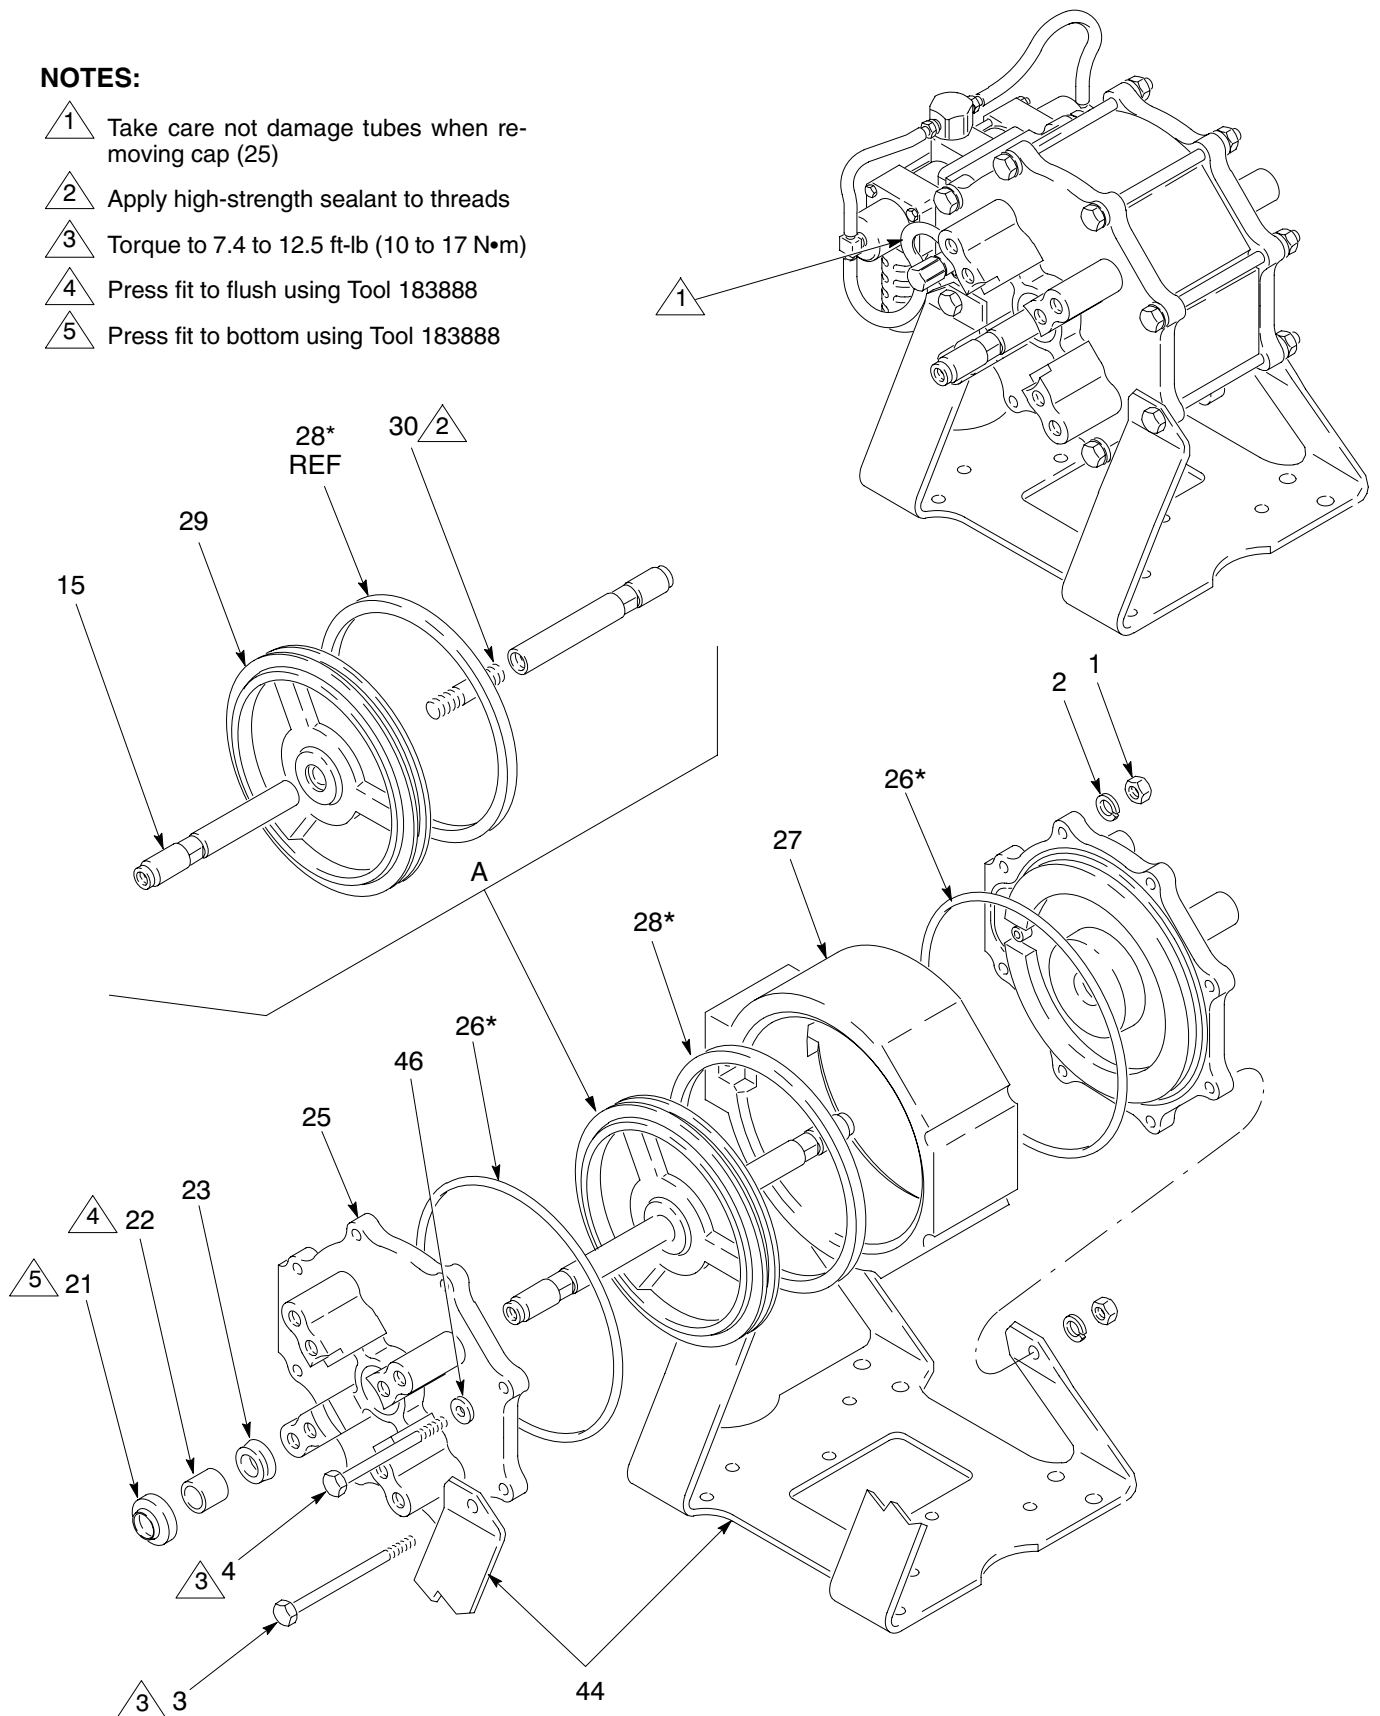
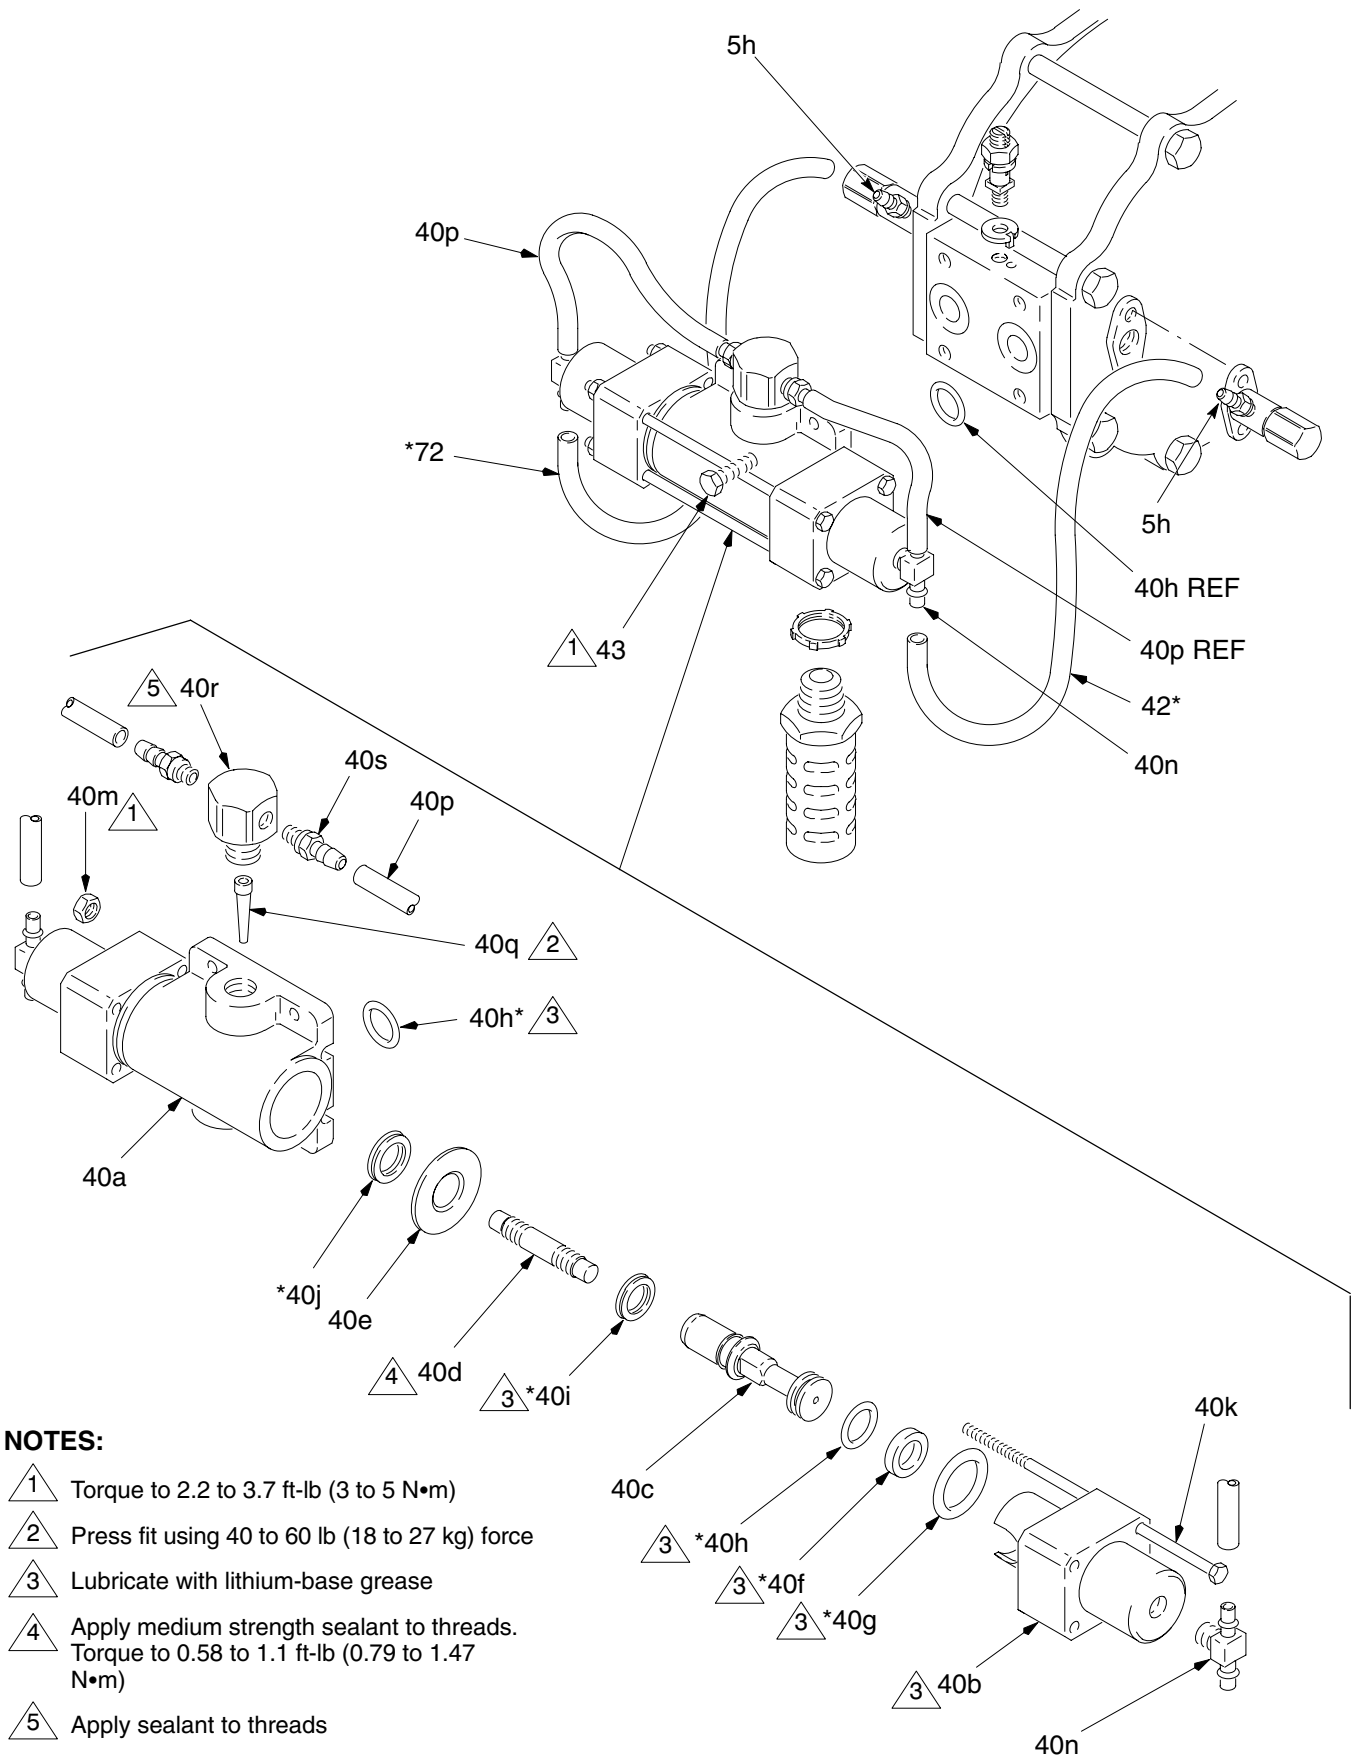

Fig. 7
Fig. 8
3. Remove the screws (3 & 4), washers (46), nuts (1), and lockwashers (2) from the cylinder cap (25). See Fig. 7.
4. Remove the pump from the mounting bracket (44).
5. Remove the cylinder cap (25) from each end of the air motor. If the hoses aren't disconnected or the pilot valves removed, be careful not to pull on the hoses when removing the caps.
1. Apply lithium base grease to all packings, seals, and the inside of the air motor cylinder (27) before assembling.
2. If the piston shafts (15) were removed from the piston stud (30), apply high strength sealant (such as Loctite®) to the threads of the piston stud, and assemble as shown in Fig. 7.
3. Install the quad ring (28\*) in the groove on the piston (29). Install the piston assembly (A) into the air motor cylinder (27).
4. Install a u-cup (23\*) into each of the cylinder caps (25). The lips of the u-cup must face in, towards the center of the pump, as shown in Fig. 8.
5. If the bearings (22) were removed, install a bearing into each cylinder cap (25). Press fit the bearing to flush, using the Bearing/Wiper Tool 183888 and an arbor press.
6. Install a shaft wiper (21) into each cylinder cap (25) with the brass part of the wiper facing out, away from the center of the pump, as shown in Fig. 8. Carefully press the wiper into place, using the Bearing/Wiper Tool 183888, to avoid damaging the brass piece.
7. Install an o-ring (26\*) into the groove in each of the cylinder caps (25). Slide a cylinder cap (25) onto each end of the air motor.
8. Secure the mounting bracket (44) and cylinder caps (25) on the pump with the screws (3 and 4), washers (46), nuts (1), and lockwashers (2). Torque the screws to 7.4 to 12.5 ft-lb (10 to 17 N•m).
2. Cut a small slit in the tube ends (72\*, 42\*, 40p\*) and disconnect them from the pilot valve fittings (5h), air valve tees (40n), and barb fittings (40s). See Fig. 8.
5. If the air filter (40q) needs cleaning or replacement, unscrew the filter housing (40r) and remove the filter. To clean them, soak the filter housing and the filter in solvent until they are clean. Blow them dry with low pressure air [under 30 psi (207 MPa, 2.1 bar)]. Press fit the filter into the housing, using 40 to 60 lb (18 to 27 kg) of force. Refer to Fig. 8. Apply sealant to the filter housing threads and turn it into the center housing (40a).
9. Install the air valve on the pump with the four cap screws (43). Torque them alternately and evenly to 2.2 to 3.7 ft-lb (3 to 5 N•m).
10. Connect the new tubes (72\*, 42\*, 40p\*) to the pilot valve fittings (5h), air valve tees (40n), and barb fittings (40s), as shown in Fig. 8.